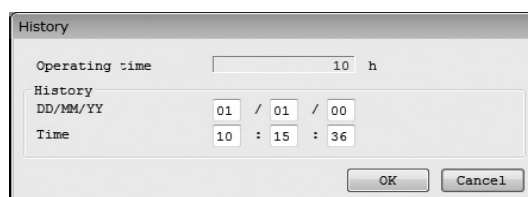

Fig.163
- ① Click on "Maintenance (M)" > "Maintenance transmitter" > "History" in the menu.
- ② The following window will be displayed (Fig. 163).